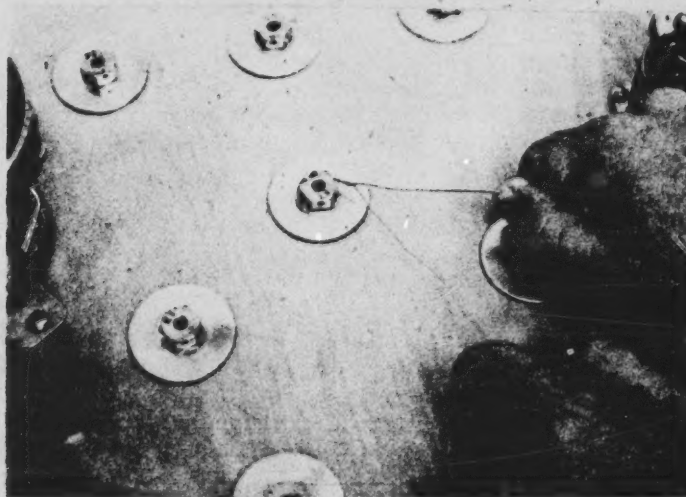

Figure 11. Starting the Twist by Hand.
5. Twist the two wires together by hand. Make sure the first twist begins at the drilled hole. Make about three twists clockwise while pulling firmly. See figure 11 below.